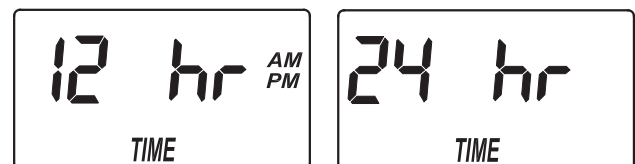

FIG. 27
1. Press and hold the PROGRAM button until the screen in Figure 23 is displayed. Once in this display, press the PROGRAM button three times and one of the two displays in Figure 27 is shown.